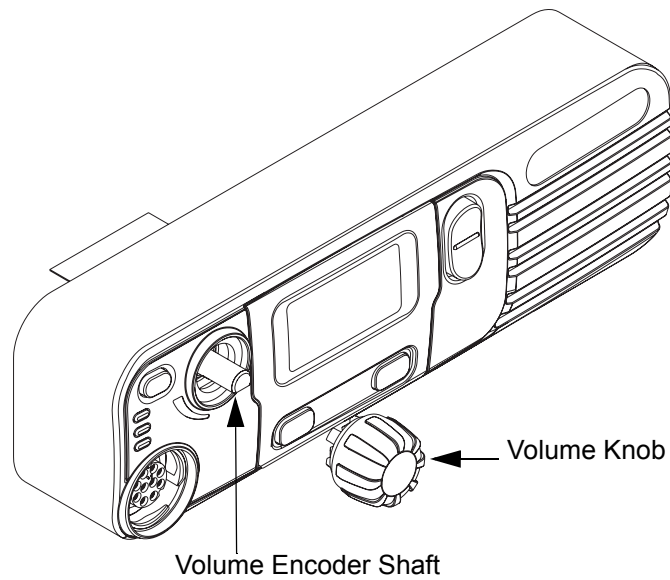

Figure 5-43 Volume Knob Assembly
8. Orientate the volume knob so that the internal D-shaped opening matches the volume encoder shaft and press the volume knob into the control head assembly until the snap features are engaged and the knob rotates freely. Refer to Figure 5-43.